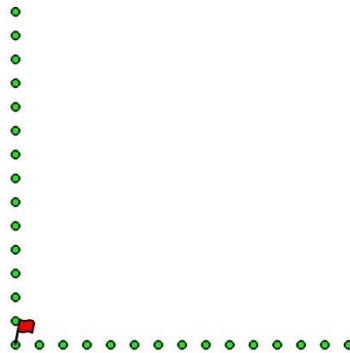

Figure 7-9: Marking the line spacing and starting positions for every line
Step 3 – Mark the Line Start Positions – with the tape measure still on the ground, mark the line start positions based on the line spacings (Figure 7-9). Usually flags or paint work for